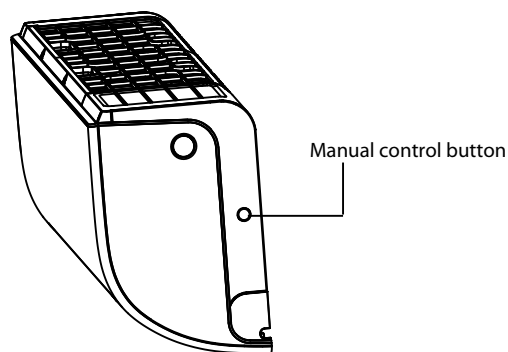

Fig. 8.1
1. Locate the MANUAL CONTROL button on the right-hand side panel of the unit. See Fig.8.1.